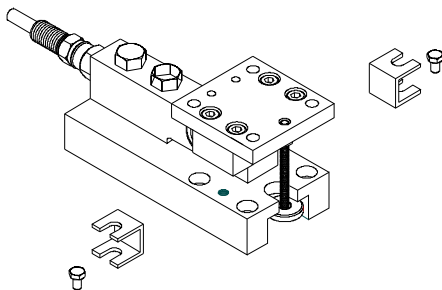

FIG. 4: REMOVING SHIPPING BRACKETS
- Step 2. Use a box-end wrench to remove the two shipping brackets from the load point. (See Fig. 4)